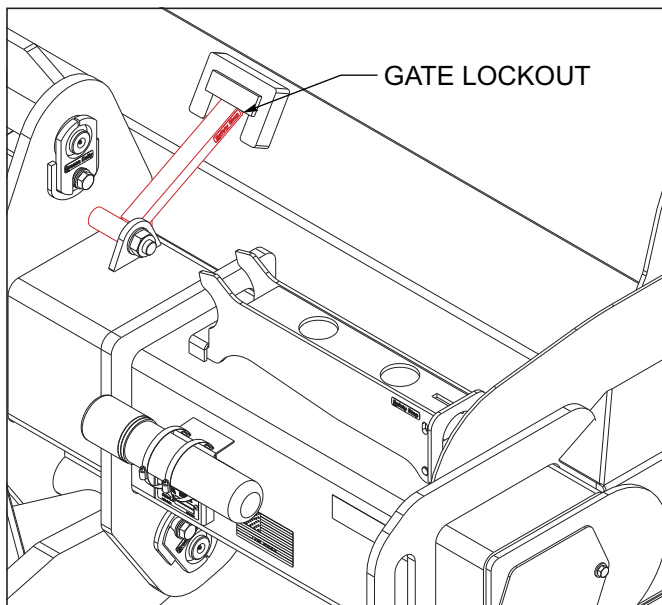

Figure 4-4: Gate Lockout
1. The hydraulic system will be filled with oil and fully charged. Carefully hitch the AG11/AG13 to the tractor and connect the hydraulic lift hoses. Check to make sure the tractor hydraulic reservoir is full of the manufacturer's recommended oil. Complete a gate/push-off wall cycle to verify that the system is operating correctly. Recheck tractor reservoir to make sure it is within operating limits. With the gate cylinders fully retracted, install the gate lockout. *See Figure 4-4*